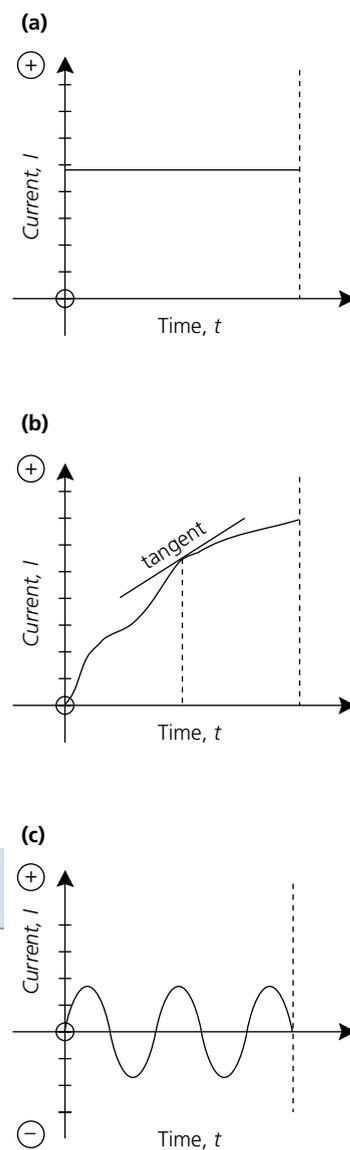

Figure 22.7
Recall that in the previous section it was stated that a battery can supply direct current (DC). Let us take this idea further to see why this is possible. A **simple cell** consists of two dissimilar metals separated by a conducting solution. If several simple cells are joined together the combined arrangement is called a **battery**. For example, the normal 12 volt car battery usually has six individual cells connected together. The simple cell allows two dissimilar metals to be separated by a conducting electrolyte solution or paste. In a copper-zinc cell such as in Figure 22.7, chemical reactions cause the copper electrode to become positively charged and the zinc electrode to become negatively charged with a potential difference of about 1.0 V. The familiar carbon-zinc dry cell (carbon-positive, zinc case-negative) produces a potential difference of about 1.5 V.